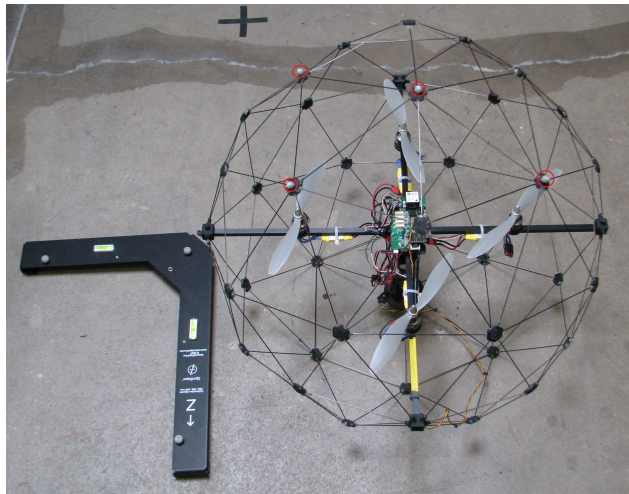

Figure 33: Qball markers placed for trackable.
1. Add tracking markers to the top of the Qball protective cage in a fixed, unique pattern, as shown in Figure 33. At least 3 markers must be used and additional markers provide better redundancy and robustness to occlusion.